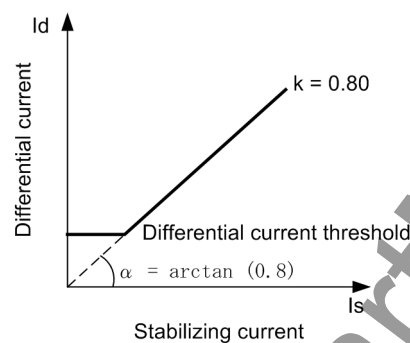

Figure 7-13 Trip characteristic of the busbar protection
- Repeat the checking with a different constant current I_1 . The Trip characteristic graph is shown in Figure 7-13, page 273.
- ❑ Repeat the test with different constant currents I_1 . The trip characteristic graph is shown in Figure 7-13, page 273.